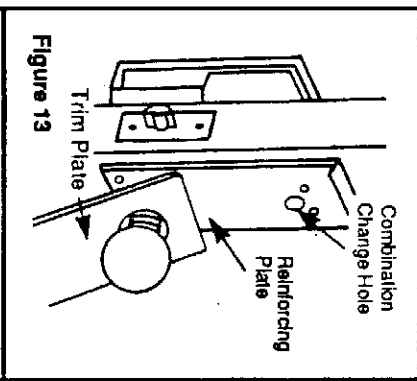

Figure 13
4. Gently pull the trim plate back from the door far enough for it to disengage from the reinforcing plate and hang freely from the sleeve (see Figure 13). The combination change hole is now visible.